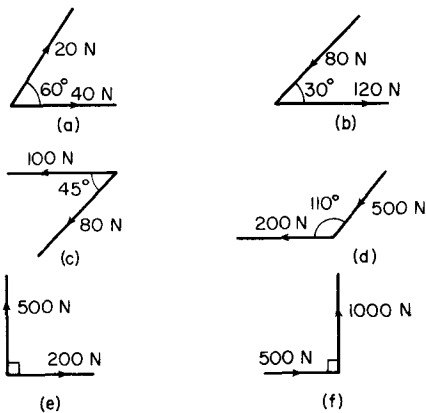

Fig. 2.27
24. Find the resultants of the forces shown in Fig. 2.27.